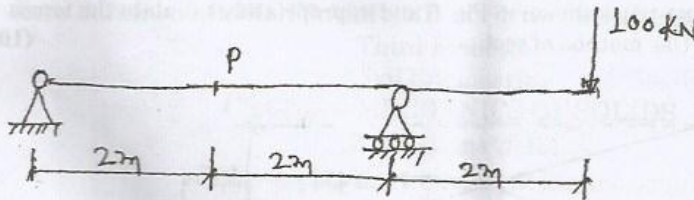

Fig. 3
13. a) By area-moment method, find the deflection at the mid-span (P) of the prismatic and homogeneous beam shown in Fig. 3. (13)